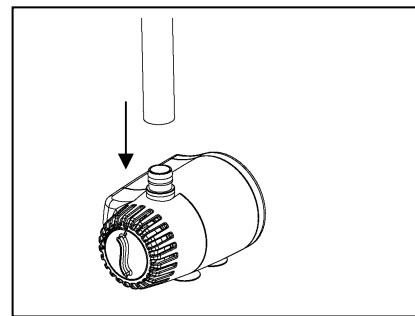

Fig. 1
1. Connect tubing to the outlet of the pump with the appropriate adapter. Fig 1